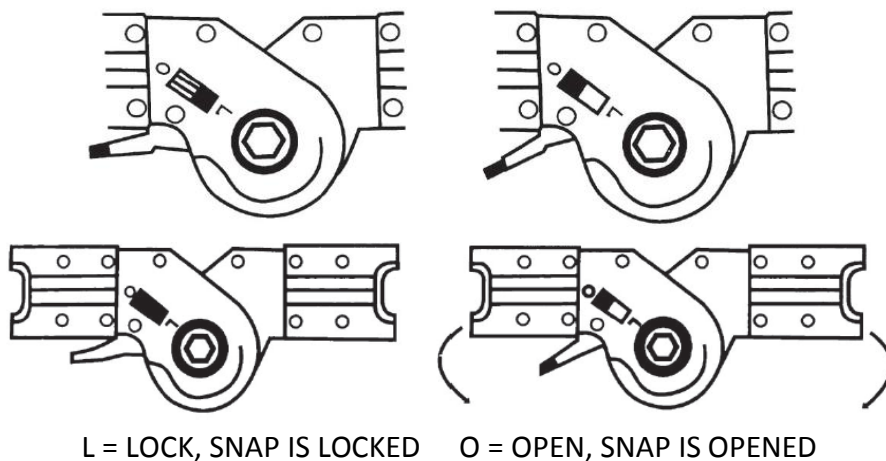

Fig. 3
- c) Unfold the ladder into required positions. In certain positions, the wedge snap locks in the joint to “L” position (this can be seen on each joint from the side, Fig. 3); then, the joint is locked and it is impossible to move it. If you need to unlock the joints, move levers on both sides of the ladder in the direction away from the profile (Fig. 3). The snaps move to “O” position, and they remain unlocked until they are moved to another position. Before climbing up any of the versions of the articulated ladder, it is necessary to check whether all snaps are in “L” position, thus making sure the joints are blocked.